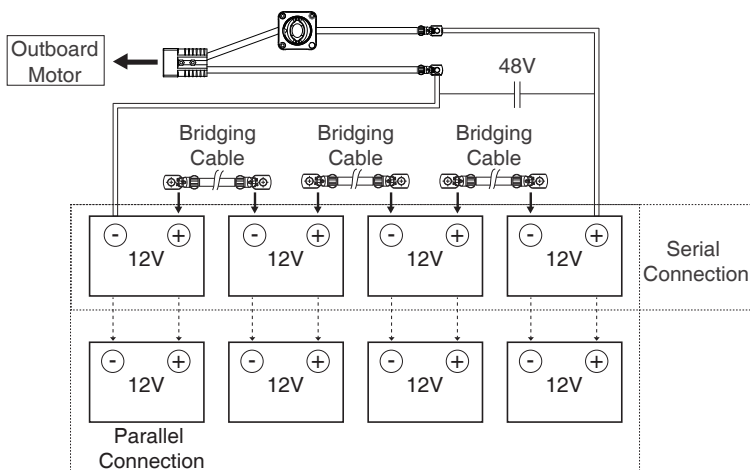

Figure 4-3
When connecting four 12V batteries in series to make a 48V battery set to supply power for NAVY 3.0, use bridging cables to connect batteries in series (Figure 4-3). Make sure to connect the main switch cable to battery positive terminal and the other cable to battery negative terminal.
- ⚠️ Never reverse the polarity. Please pay more attention when connecting batteries in series and/or in parallel configuration. Always double check by referring to Figure 4-3.